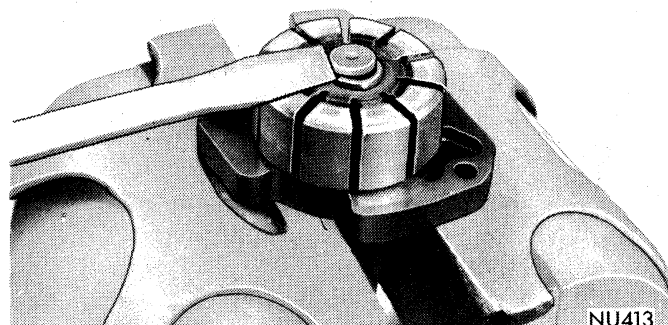

Fig. 8—Removing Rotor Lock Ring
(15) Clamp drive shaft in soft jawed vise, with rotor and thrust plate facing up.
(16) Remove rotor lock ring, pry ring off drive shaft using a screw driver (Fig. 8). Exercise care to avoid nicking the rotor end face. Discard ring.
(17) Slide rotor and thrust plate off of shaft and remove shaft from vise.